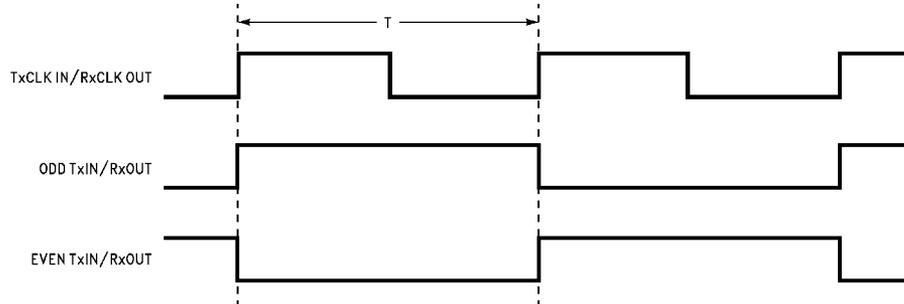

FIGURE 1. "Worst Case" Test Pattern
**Note 8:** Figures 1, 2 show a falling edge data strobe (TxCLK IN/RxCLK OUT).